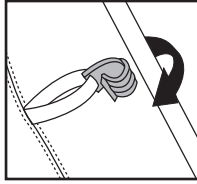

Figure 6A
6. Attach clips located on the seams of the tent to the corresponding poles above each (Fig. 6A and 6B).